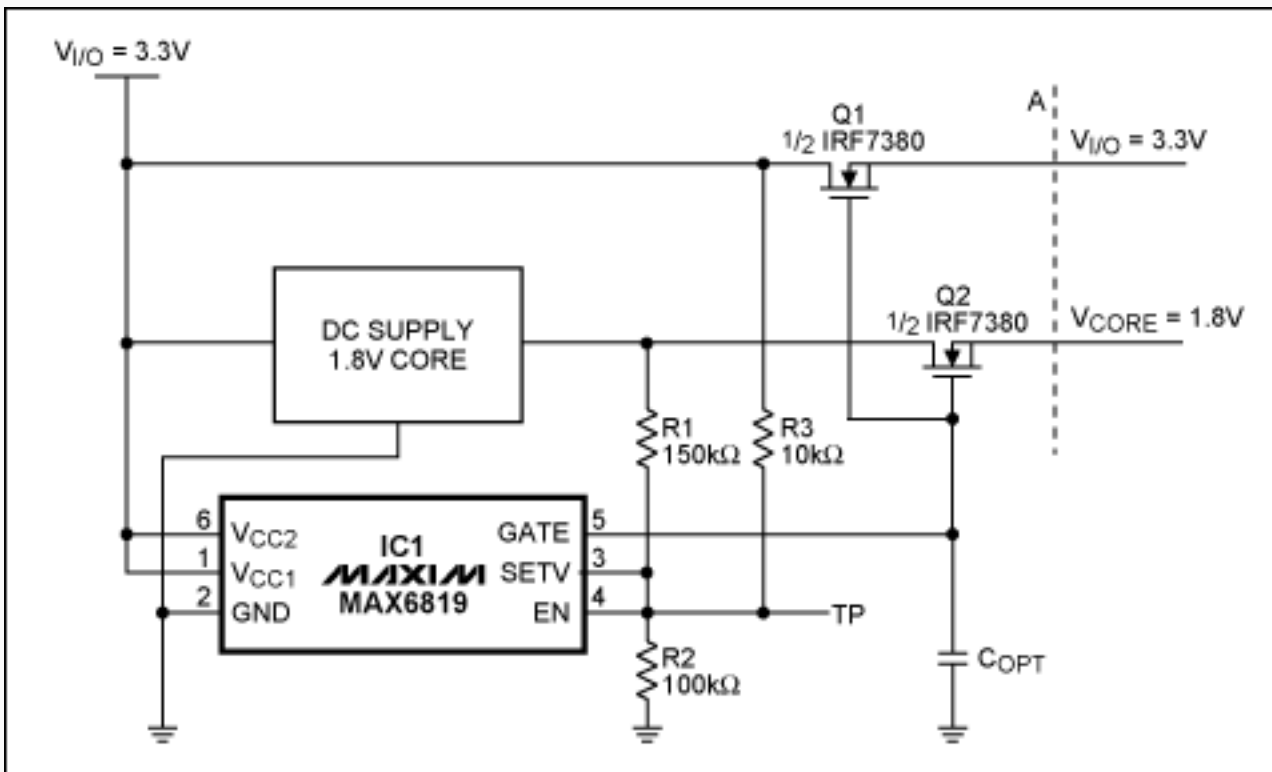

Figure 2. A voltage sequencer (the MAX6819) forces the core and I/O voltages to track by controlling the n-channel MOSFETs simultaneously.
A simpler, open-loop tracker may be adequate in some cases. A power-supply sequencer circuit (IC1, the MAX6819, in **Figure 2**) can be configured to perform the voltage-tracking function. Unlike the closed-loop methods, this approach does not short out the power rails or require the control of a DC-DC regulator's feedback loop.
The core and I/O supply voltages are off when the MOSFETs are off (Figure 2). Then, as the voltage monitored at SETV exceeds its threshold, an internal charge pump generates a voltage (GATE output) that enhances the
Figure 3. This scope photo illustrates the tracking of $V_{I/O}$ (upper trace) and V_{CORE} in the circuit of Figure 2, where $V_{I/O} = 3.3V$, $V_{CORE} = 1.8V$, and both loads are adjusted to 1A.
The Figure 2 circuit can also monitor the supply voltages. If the 3.3V rail falls below about 2V, or if the 1.8V rail falls below the threshold set by the R1/R2 voltage-divider, the GATE output goes low and turns off both MOSFETs. Resistors R1 and R2 determine the actual shutoff level. (The values shown monitor the 1.8V rail.) You can turn off the circuit by pulling the enable input (EN) low.
As a bonus, the circuit automatically "retries" after responding to a shorted load. If the short appears to the right of the dotted line ("A" in Figure 2), the collapse of either or both supplies opens the switches and disconnects both loads from the supply voltages. The formerly shorted power rail returns, and a 200ms delay built into the MAX6819 again closes the switches to test the load after the delay. This load testing continues at 200ms intervals until the short disappears or until the supplies are turned off.